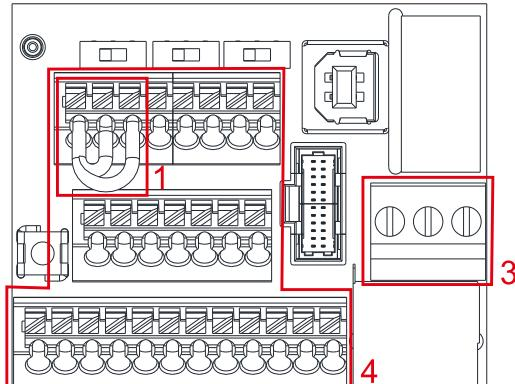

Figure 6-6 Control Terminal Distribution Diagram
8. The factory default is $+24\text{ V}_{\text{DC}}$ / S1 / S2 short-circuited by jumper, as shown in Area 1 in Figure 6-6. Refer to Figure 4-2 in Chapter 4 WIRING for details.
10. The RELAY terminal uses the PCB terminal block (as shown in Area 3 in Figure 6-6):
11. The Control terminal uses the push-in spring terminal block (as shown in Area 4 in Figure 6-6):